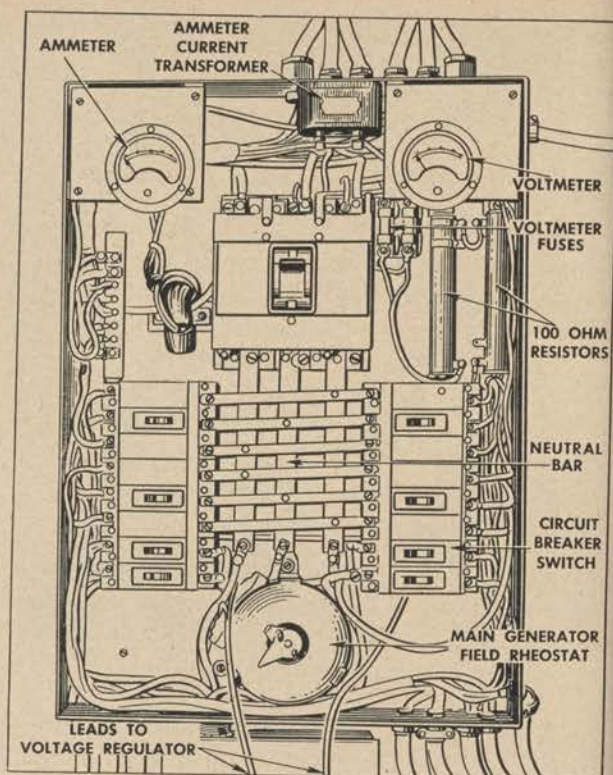

Figure 249. Main generator control panel with cover removed.
b. MAIN GENERATOR CONTROL PANEL (FIGS. 249 AND 250). (1) *Description.* (a) The panel contains the following units: